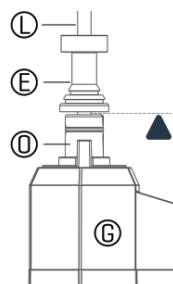

Figure 6
For the use with GEWA factory Trigger Banks the top cymbal needs to be mounted high enough, so that the Clutch Bumper (E) does not press down the controller shaft (O). See *Figure 6* for comparison.
- 3 After step 2, the Clutch Bumper (E) should be touching the carriage Hi-Hat Controller (O), without pressing the shaft down (see *Figure 6*). This corresponds to a minimum cymbal spacing (S) of approximately 19 mm (¾").